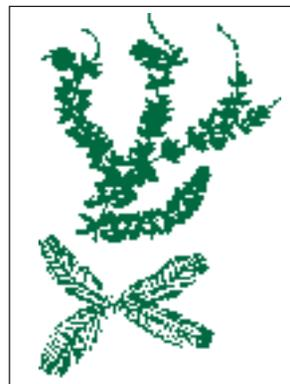

Figure 4
2. Lateral segments of most well-developed leaves 14-17 (Figure 4) on a side; turions never produced Eurasian water-milfoil